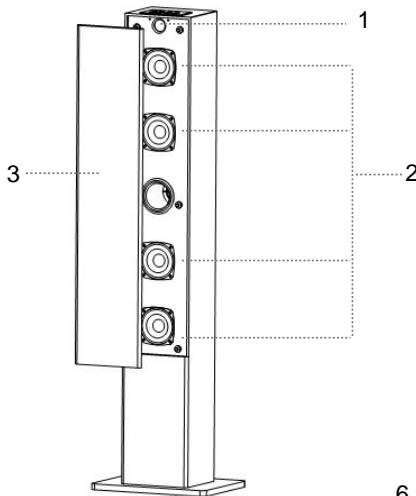

Figure1
- 1.The speaker net can be taken out and reassembled as Fig.1 above.
1. Push and slide out the battery holder as figure 1 below.